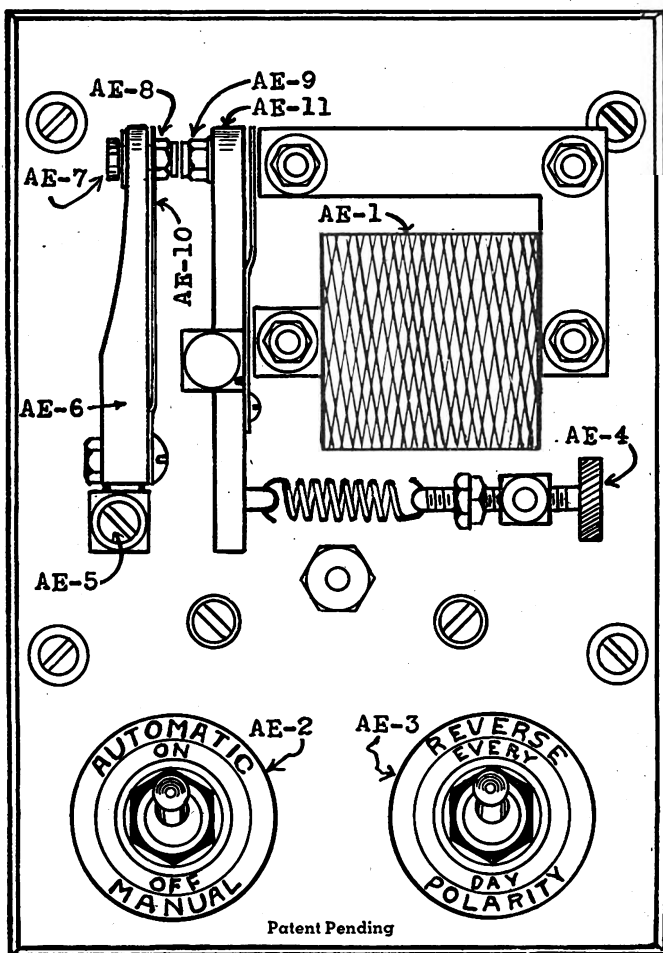

Figure 7. Voltage Regulator, front view.
(3) Throw the switch AE-2 (fig. 7) to the ON position. The regulator should bring the a-c voltage up to normal.
(4) Adjust screw AE-4 (fig. 7) to bring voltage up to normal (240 volts).
(5) After a few minutes, throw the switch AE-2 to the OFF position and note the voltage reading on the voltmeter. If the reading is more than 45 percent of the normal voltage (240 volts), adjust the rheostat to bring the voltage down to the correct value (about 108 volts).
(6) Throw switch AE-2 to the ON position again. The alternator is now regulated to maintain the voltage to within  $2\frac{1}{2}$  percent of normal.
(7) Mark the position of the rheostat pointer for future reference. It should be kept on this mark when using AUTOMATIC voltage regulation.